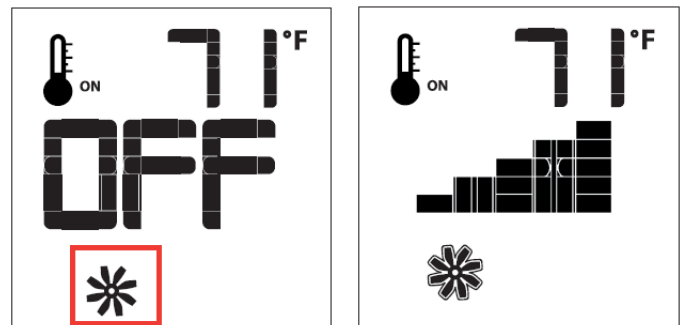

Figure 26l. Fan Speed Control
The fireplace is equipped with optional hot air circulating fans. The speed of the fans can be controlled by the Proflame system. The fan speed can be adjusted through six (6) speeds. To activate this function use the Mode Key, see Figure 26, to index to the fan control icon, see Figure 26l. Use the Up/Down Arrow Keys to turn on, off, or adjust the fan speed. A single "beep" will confirm reception of the command.